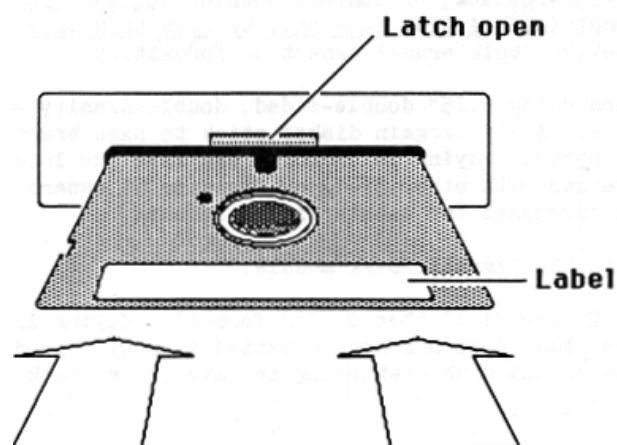

Fig. 5-6
5. Next, insert a disk label side up with the labelled side going in last (see Fig. 5-6).